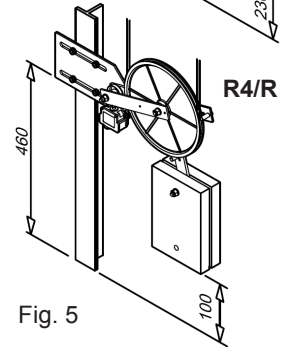

Fig. 5
- Models with the vertical counterweight mount the mounting support at about 460mm (approximate value: Fig. 5) from the bottom of the shaft.
- In the model with vertical counterweight keep a distance of about 100mm between counterweight and bottom of the shaft (Fig. 5).